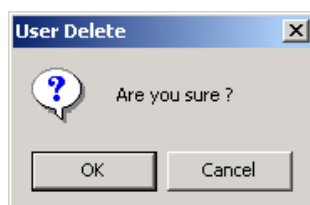

Fig. 11.4.2-1 : User delete
- (3) Click "OK" on the 'User Delete' screen (Fig. 11.4.2-1).